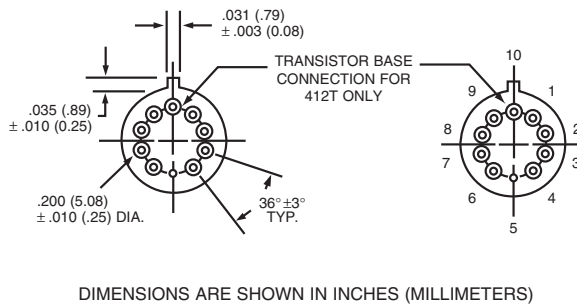

**FIGURE 2**
| Contact Load Ratings (DC)(See Fig. 2 for other DC resistive voltage/current ratings) | Resistive: 1 Amp/28VdcInductive: 200 mA/28Vdc (320 mH)Lamp: 100 mA/28VdcLow Level: 10 to 50 µA/10 to 50mV                                    |                           |